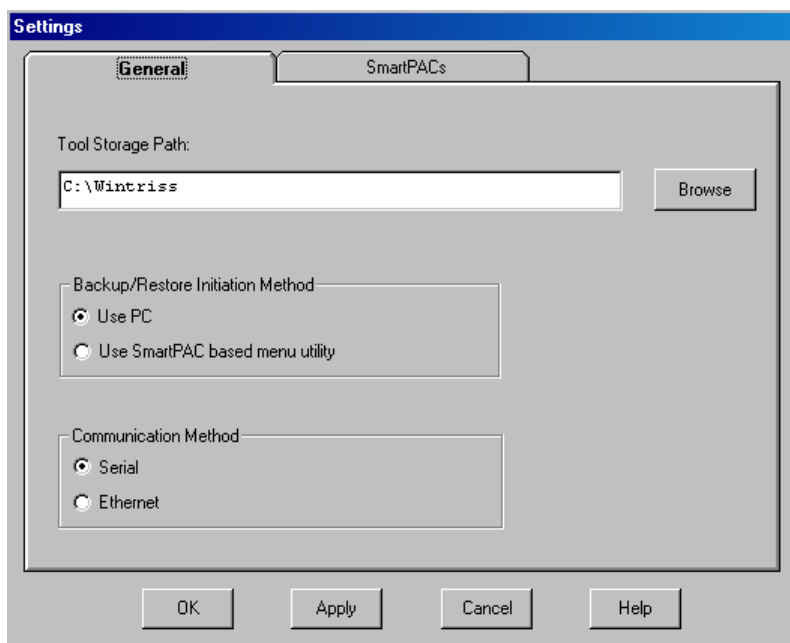

Figure 3. SBR Settings Screen, General Tab
4. Click on *File | Settings* on the SBR screen. The SBR Settings screen with the General tab selected displays (see Figure 3).